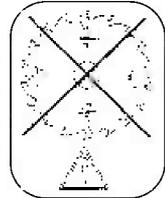

Fig. 6
- Do not use blades for wood! (fig. 6).